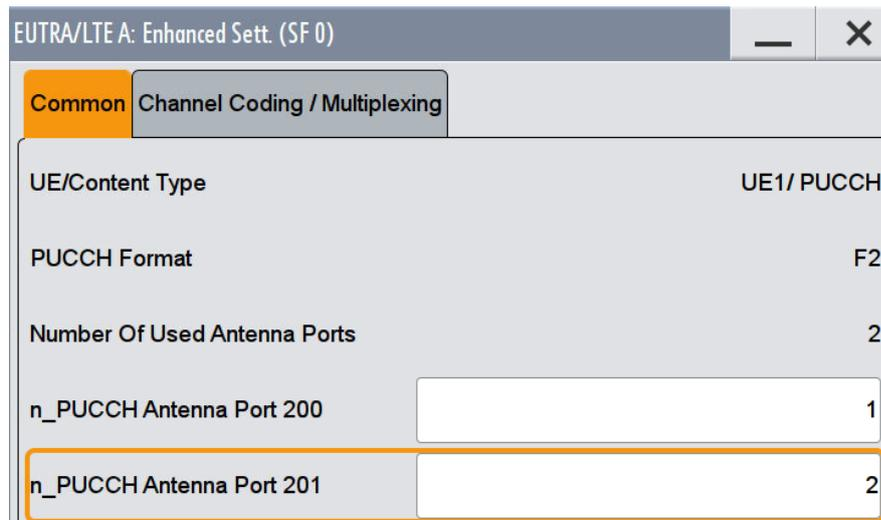

Fig. 3-158: Set the parameters n_PUCCH to 1 and 2
11. Set the resource index **n_PUCCH** to 1 and 2. (Fig. 3-158)